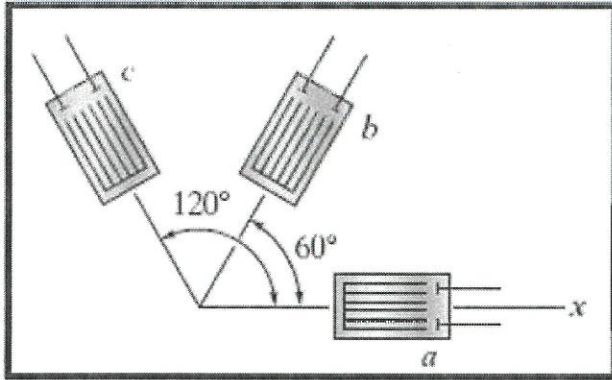

Figure Q1(b)
- (b) The 60° strain rosette is mounted on the aircraft A380 vertical stabilizer as shown in **Figure Q1(b)**. Due to the loadings during flight test, the readings from the gauges give $\varepsilon_a = 60(10^{-6})$, $\varepsilon_b = 135(10^{-6})$ and $\varepsilon_c = 264(10^{-6})$. Determine.